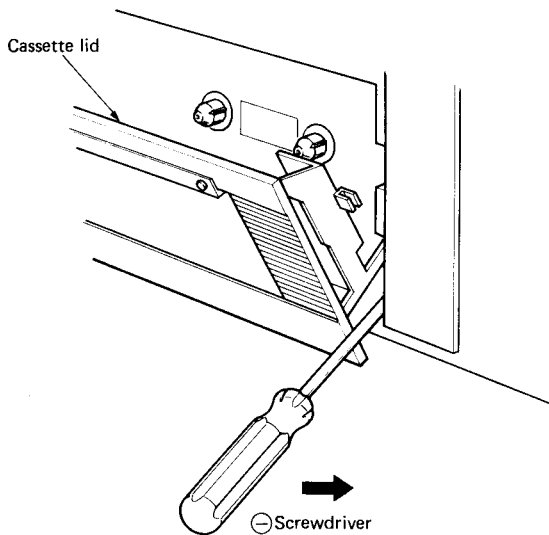

Fig. 2
- 2) Insert a (–) screwdriver between the cassette lid and the front case and pull the cassette lid toward you while pressing the screwdriver to outside. Fig. 2 shows the right side of the cassette lid. Perform same procedure for the left side.